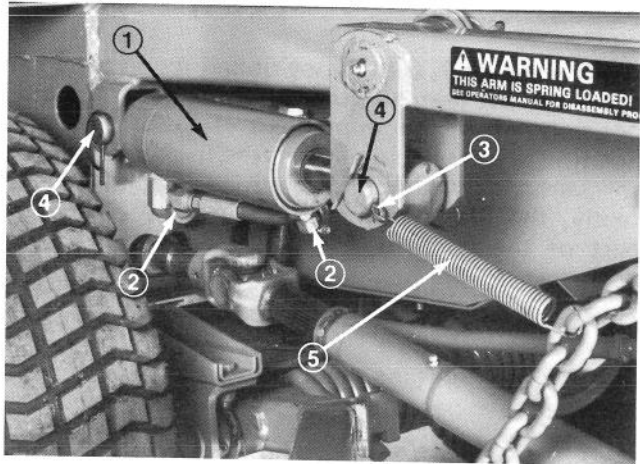

Figure 62
2. Remove hoses from lift cylinder (Fig. 62) and cap the hoses to prevent contamination.
3. Remove hair pin cotters and spring from cotter pin. Remove pins and slide cylinder from between the lift arm and the stationary mounting bracket (Fig. 62).
4. Install new cylinder with pins, and assure the cotter pin (Fig. 62) securing moveable end of cylinder is to the outside. Hook chain tension spring through eye of cotter pin.